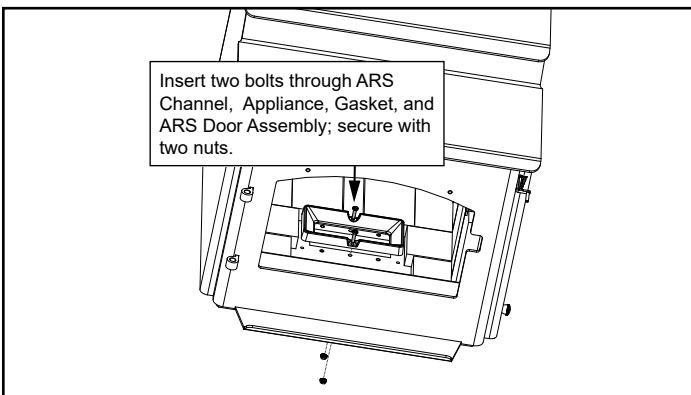

Figure 19.4
11. Using two bolts and two flange nuts to secure ARS channel using 3/8 open end wrench and 7/16 socket wrench (**Figure 19.4**).
11. Use 2 bolts and two flange nuts to secure ARS channel using 3/8 open end wrench and 7/16 socket wrench (**Figure 19.4**).